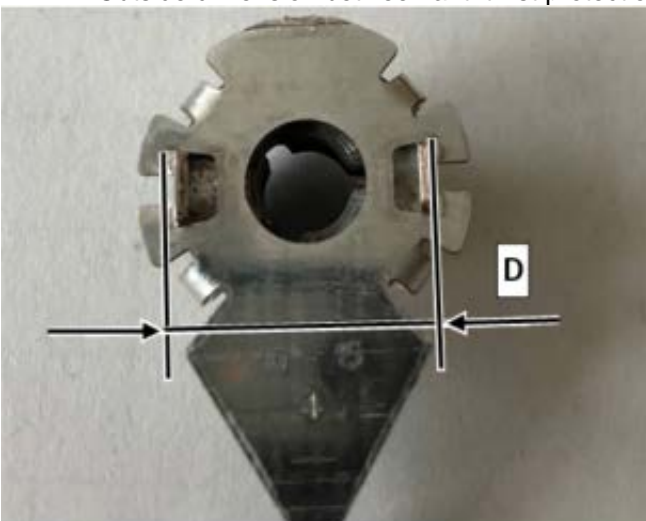

Figure 4
10. Measure outside dimension between anti-twist protection lugs (**D, figure 4**).
i Outside dimension between anti-twist protection lugs (**D, figure 4**) min. 13.6 mm.
- a. Anti-twist protection (**C, figure 3**) **straight** or **bent outwards**, i.e. outside dimension between anti-twist protection lugs (**D, figure 4**) **equal to or greater than 13.6 mm**: Perform operation step 11, then **end measure**.
- b. Anti-twist protection (**C, figure 3**) **bent inwards**, i.e. outside dimension between anti-twist protection lugs (**D, figure 4**) **less than 13.6 mm**: Create **PTSS case**.
i Only if anti-twist protection of cable lug is **bent inwards** , i.e. outside dimension between anti-twist protection lugs (**D, figure 4**) is **less than 13.6 mm**.